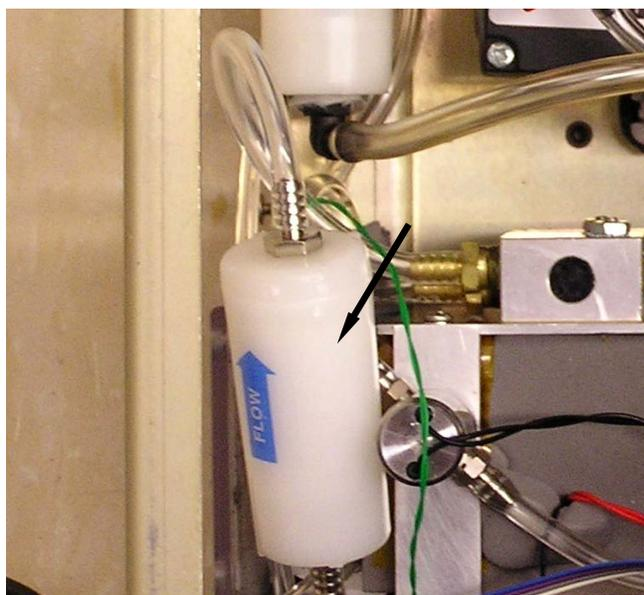

Figure 8-2
The Bypass air filter is identified in Figure 8-2 and is referenced in the schematic, Figure 5-1. This filter is used to protect a variable orifice controlling flow at a nominal 1.2 L/min. The Bypass filter is used during the high-flow operation mode. This filter is generally not replaced unless the instrument sample flow is compromised as the filter loads.
3. Locate the filter in Figure 8-2. Before replacing the filter note the direction arrow on the filter. It points to the 3-way solenoid valve that controls the inlet flow operation mode.
Inlet flow in the high flow mode may be reduced if the bypass filter is loaded. The bypass filter is shown in Figure 8-2. Prior to adjusting the bypass/makeup air variable orifice, replace the bypass filter. To adjust the bypass/makeup air flow, perform the following operations.